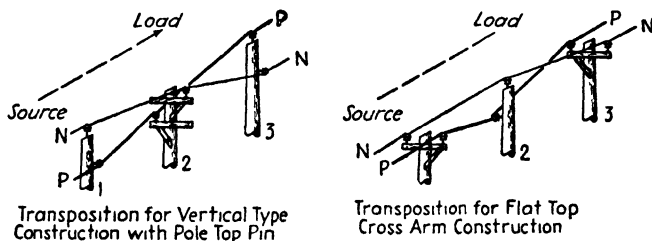

FIG. 8-27 Typical transposition methods used in vertical and flat-top single-phase construction. (Courtesy Joslyn Mfg. and Supply Co.)
**Methods of Transposing.** Transpositions are commonly made by interchanging the conductors, as already illustrated, or by dead ends and jumpers. Figure 8-27 illustrates the usual method employed in making transpositions on single-phase lines. It will be noted that with the vertical construction an intermediate pole with two crossarms is required, while with the flat-top construction an intermediate pole provided with side pin and pole-top pin is required.